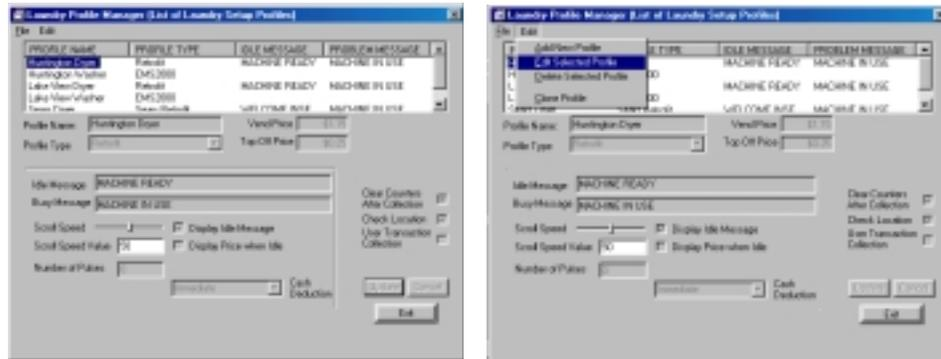

Figure 8.10 Editing Retrofit Profile
2. Click the profile to edit from the Laundry Profile List Window (Figure 8.10).
3. Select Edit Selected Profile from the Edit Drop-down menu (Figure 8.10).